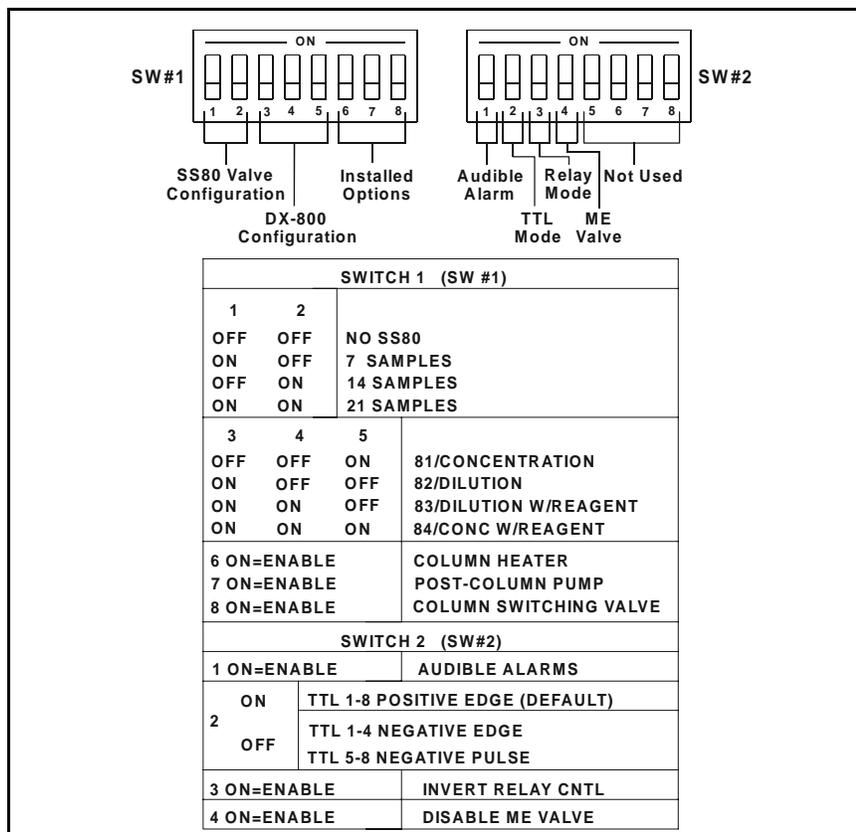

Figure 3-2. DIP Switch Settings
5. Check Figure 3-2, and then set the switches as required. The switches are numbered 1 through 8. The *off* position (logic-false) is down and the *on* position (logic-true) is up.
Metering Valve Test	Verify that the ME valve can be set to both operating positions. If the ME valve or SP80 panel is not installed, this test must be disabled with DIP switch 2, position 5 (see Figure 3-2).